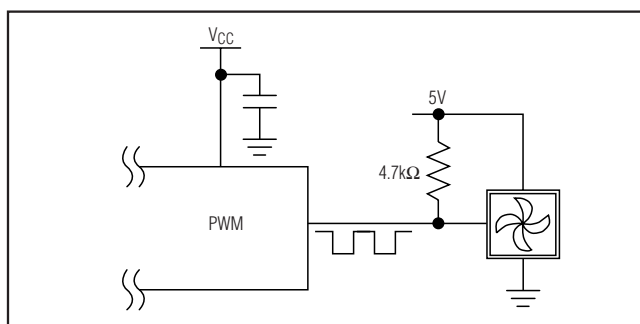

Figure 6. Controlling a PWM Input Fan with the MAX6615/MAX6616s' PWM Output (Typically, the 35kHz PWM Frequency Is Used)
- 3) PWM_ directly drives the logic-level PWM speed-control input on a fan that has this type of input. This approach requires fewer external components and combines the efficiency of (1) with the low noise of (2). An example of PWM_ driving a fan with a speed-control input is shown in Figure 6. Bit D4 in register 02h should be set to 1 when this configuration is used.